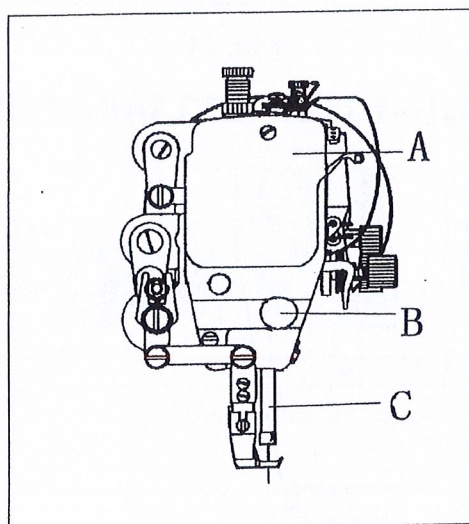

Fig. 17
## 15. TIME NEEDLE TO ROTATING HOOK ( Fig.17,18,19,20 )
A. Adjusting the needle position ( See Fig.17 )